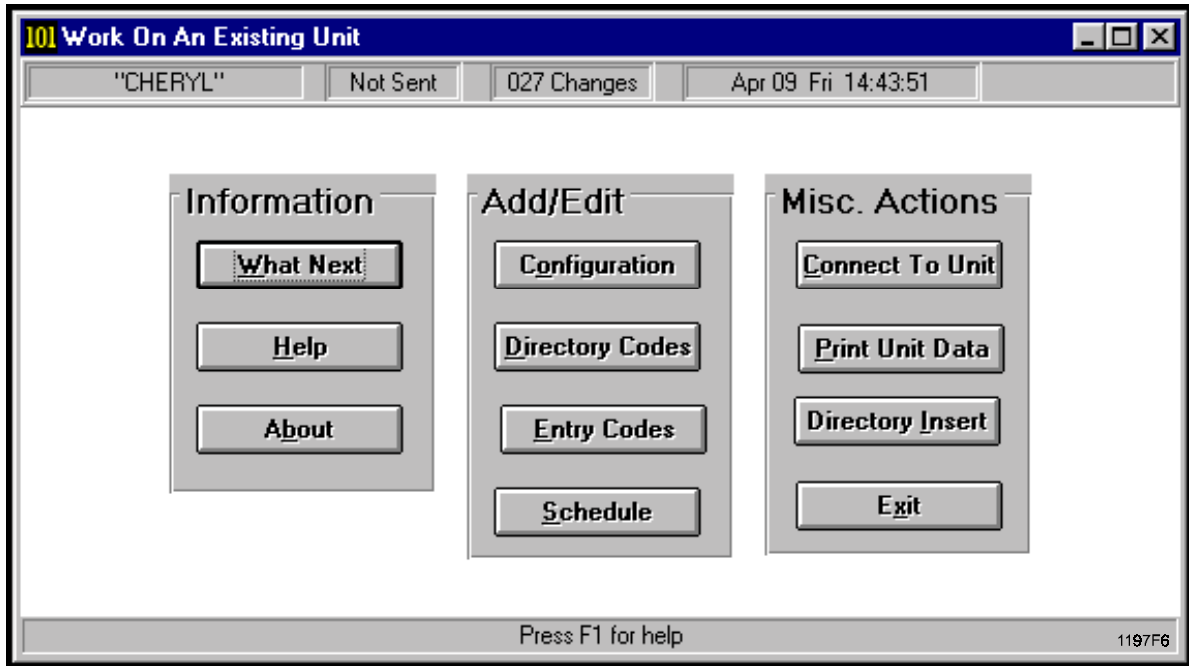

Figure 13. Work On An Existing Unit Screen
- **OK** - Select the OK button to work on the unit. The Work On An Existing Unit screen is displayed (Figure 13, Section B Work On An Existing Unit).
From the Work On An Existing Unit screen Add/Edit panel (figure 13), select Directory Codes. The Add/Edit Directory Codes screen will be displayed. If the Directory Code Conflict dialogue box appears, see Part 10, Section D.